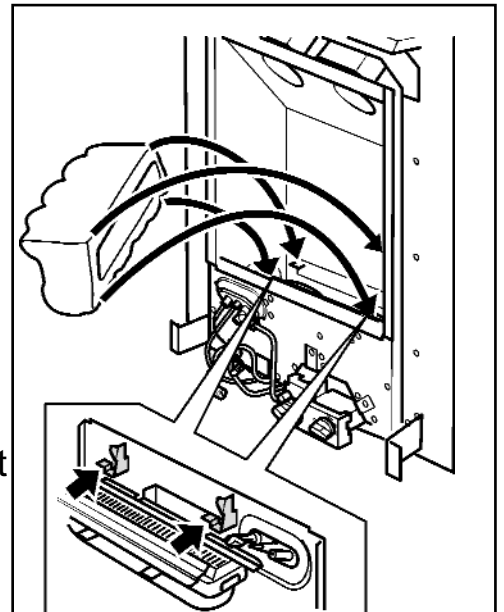

Figure 26. Ceramic pebble base location
1. Fit the ceramic pebble base into the fire above the burner. The front of the ceramic pebble base should locate on the horizontal faces but behind the vertical faces of the two location brackets positioned at the front of the burner module (See figure 26).